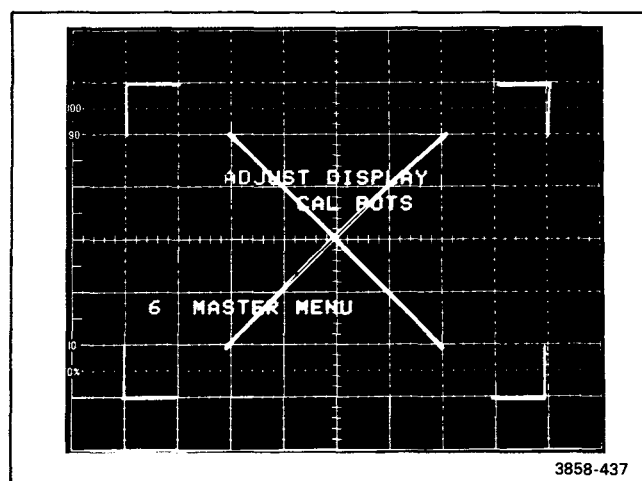

Figure 4-9. Display Adjust Pattern.
- While observing the DISPLAY CAL PATTERN displayed on the oscilloscope mainframe crt, set VERT GAIN, VERT CTR, HORIZ GAIN and HORIZ CTR adjustments to place corner markers of displayed adjustment pattern on center 6×8 divisions of graticule, as shown in Figure 4-9.
- Set front-panel VECT LIN adjustment for minimum trace separation of diagonal lines on DISPLAY CAL PATTERN as shown in Figure 4-9.